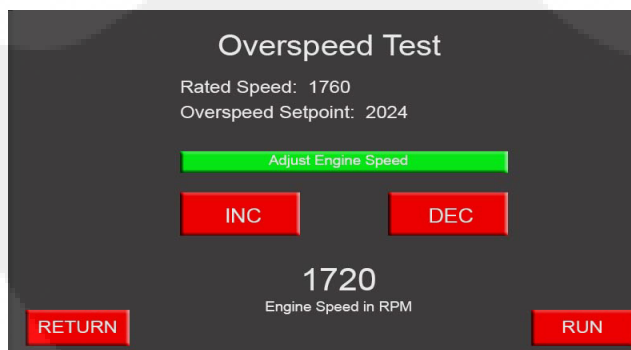

Figure 4-10 Overspeed Test - Adjust Engine Speed
3. If necessary, press Adjust Engine Speed (shown in Figure 4-10) and then use the INC and DEC buttons to increase or decrease the engine speed by increments of ten RPM.